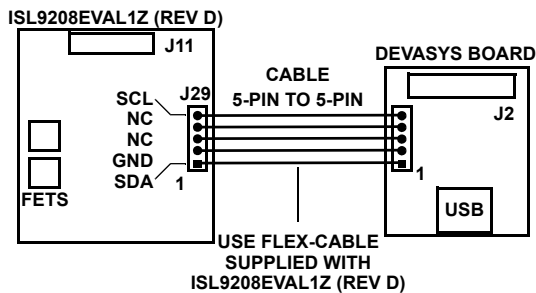

FIGURE 5. I2C CONNECTION TO ISL9208 PCB
- Connect the I2C cable from the interface board to the ISL9208EVAL1Z (Rev D), as in Figure 5. The kit may come with a 5-pin to 5-pin cable or a 5-pin to 4-pin cable. Use the 5-pin to 5-pin cable.